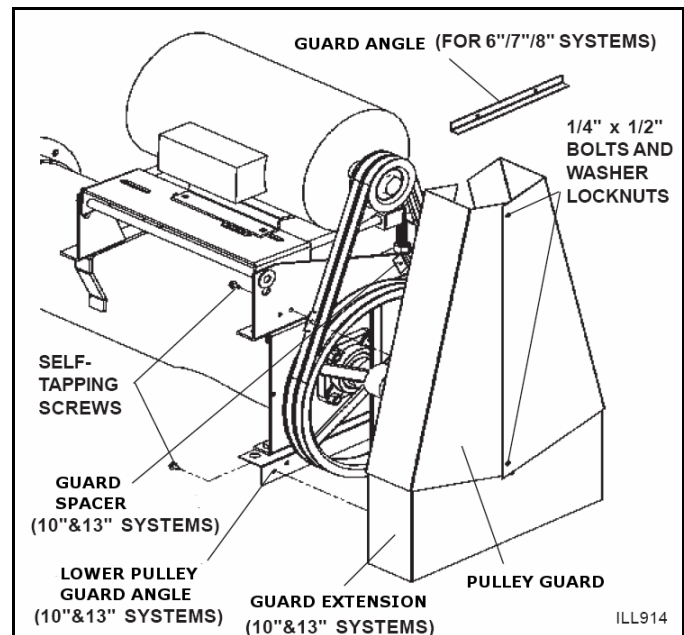

Figure 3.6 Pulley Guard
6. For 10"/13" augers, assemble the adjustable three-piece pulley guard with four 1/4" x 1/2" bolts and washer locknuts (see Figure 3.6).